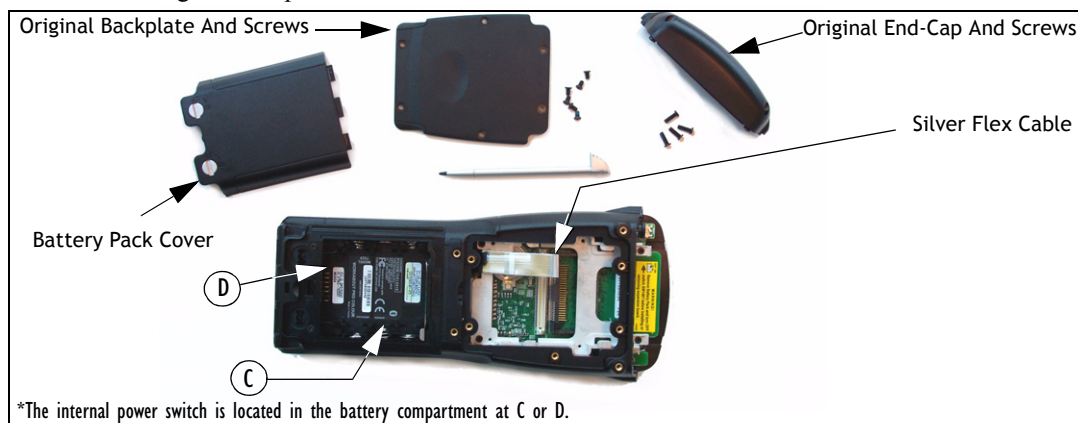

Figure 2 Disassembling The WORKABOUT PRO
4. Switch off internal power (see Figure 2 for switch location).